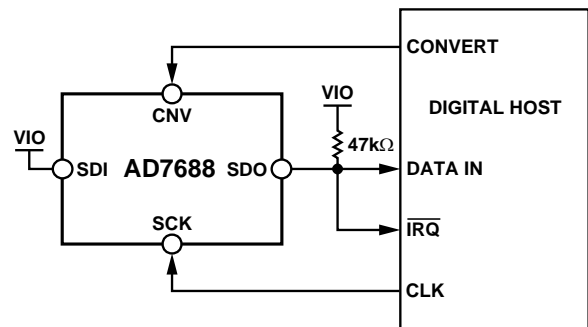
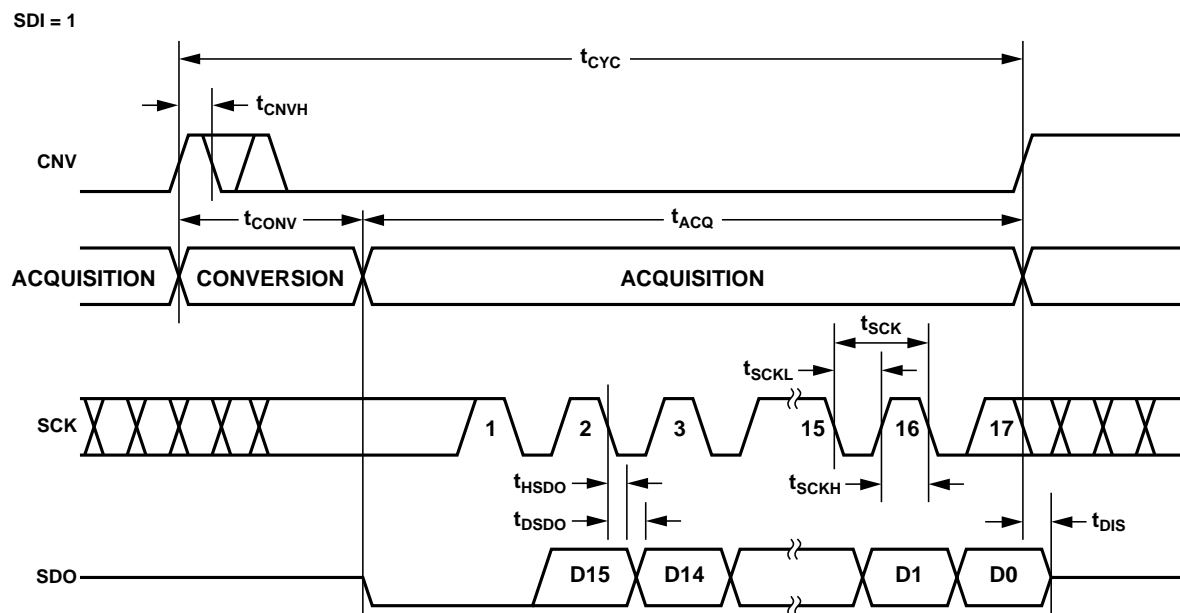
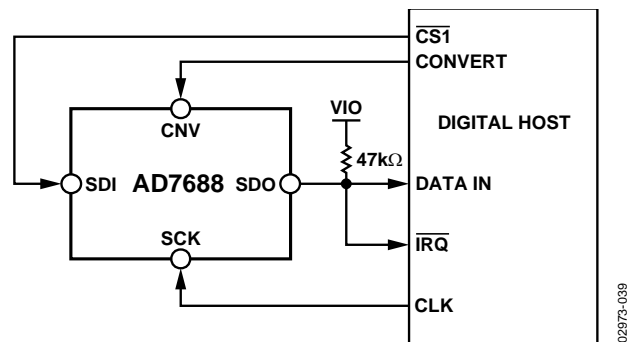
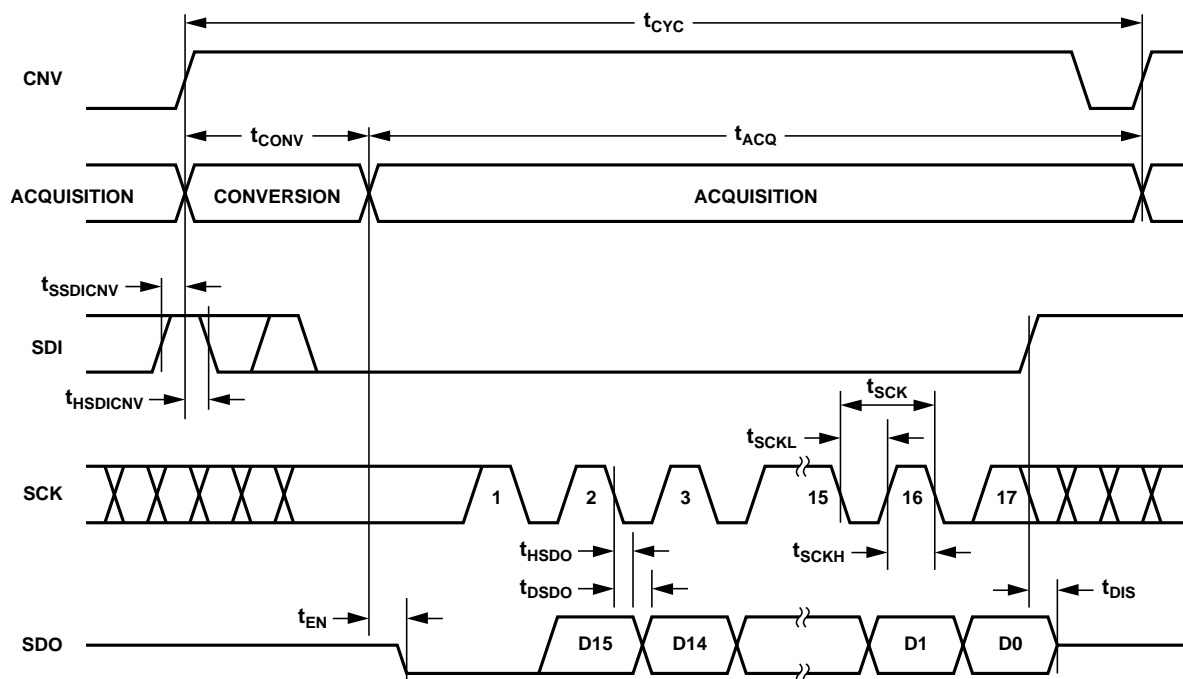

Figure 36. $\overline{\text{CS}}$ Mode 3-Wire with BUSY Indicator Connection Diagram (SDI High)
Figure 37. $\overline{\text{CS}}$ Mode 3-Wire with BUSY Indicator Serial Interface Timing (SDI High)
Figure 40. $\overline{\text{CS}}$ Mode 4-Wire with BUSY Indicator Connection Diagram
Figure 41. $\overline{\text{CS}}$ Mode 4-Wire with BUSY Indicator Serial Interface Timing
- In the $\overline{\text{CS}}$ mode, if CNV or SDI is low when the ADC conversion ends (Figure 37 and Figure 41).
The connection diagram is shown in Figure 36 and the corresponding timing is given in Figure 37.
The connection diagram is shown in Figure 40 and the corresponding timing is given in Figure 41.